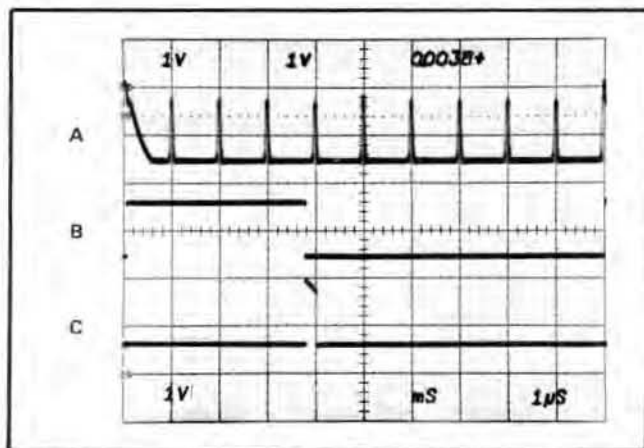

Fig. 1-3. Display showing time relationship of: (A) Input signal to the front panel; (B) Delay Interval; and (C) Delayed Trigger outputs.
The front-panel output signals are shown in Fig. 1-3, along with the input signal. The input signal, Fig. 1-3(A), is comprised of one- and ten-microsecond time markers. The
7D11 is set for a 0.0038-millisecond delay time after triggering on the ten-microsecond markers. The resultant Delay Interval and Delayed Trigger outputs are shown in Fig. 1-3(B) and (C), respectively.